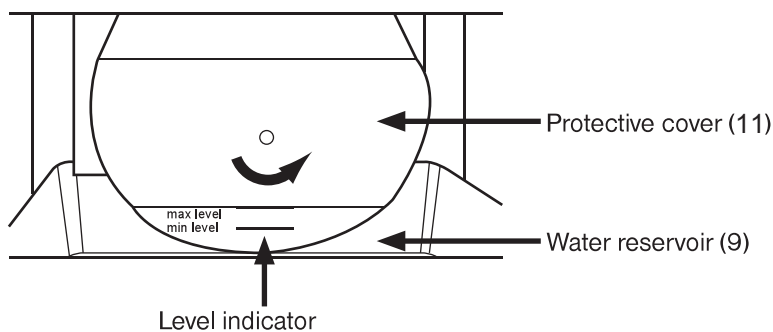

Fig. 11
The tile cutter has a water reservoir (9), in order to cool the cutting disc, to obtain a good result and to avoid the development of rising dust. Dust is harmful to your health. The creation of dust is affected by the material to be cut, the cutting disc and the presence of covers or hoods. Dust is created at the place where the tile is cut. With the use of a water reservoir (9), dust is removed where it is created and trapped in the water. Working with the tool will be safer and more pleasant. Before starting up the tilecutter, the water reservoir (9) must be positioned on the right under the machine table (4) so that the protective cover (11) is in the water reservoir (9). (See Figure 11). Make sure that you fill the reservoir with water, before starting the work. Pay attention to the fill level indicator on the protective cover (11). (See Figure 11.). **CAUTION! When you are cutting, the water-filled reservoir must be inserted. Never do dry cuts.**